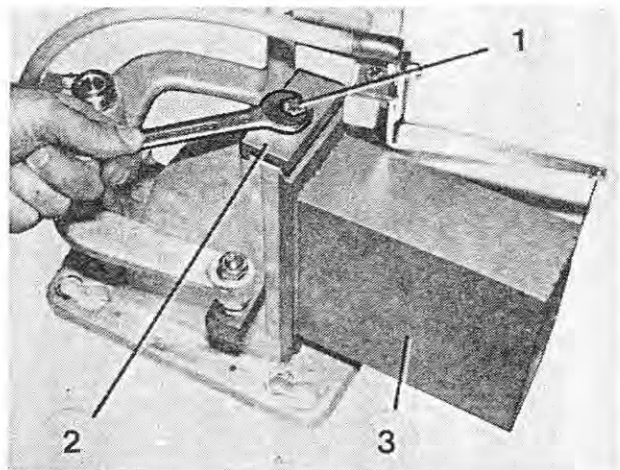

Fig. 143
9. If the filling cock is to be reused, loosen the the locking screw (Figure 143/1). Pull off the clamping piece (Figure 143/2) and remove the die (Figure 143/3).